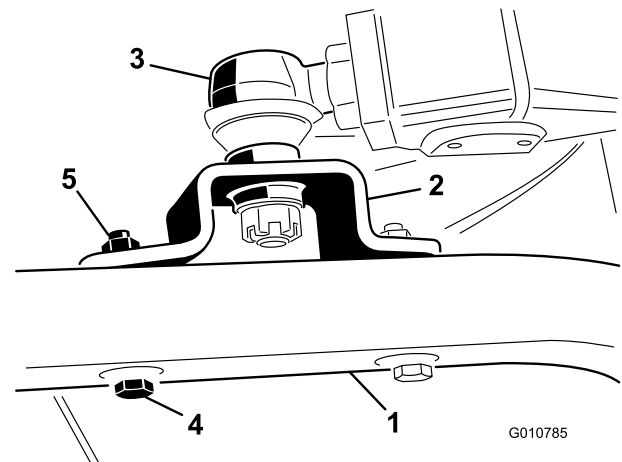

Figure 6
- Secure the ball joint mounts to each castor arm with 2 capscrews (7/16 x 3 inches) and flange nuts (7/16 inches) (Figure 6).
- Tighten the large jam nut that secures the ball joint to the lift arm (Figure 6).